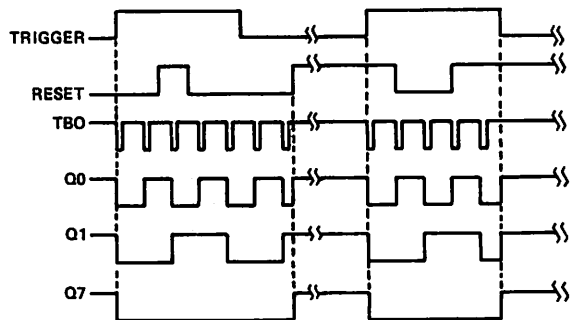

FIGURE 5—TIMING DIAGRAM OF
Figure 5 shows voltage waveforms for typical operation of the μ A2240. If both reset and trigger inputs are low during power-up, the timer/counter will be in a reset state with all binary (Q) outputs high and the oscillator stopped. In this state, a high level on the trigger input starts the time-base oscillator. The initial negative-going pulse from the oscillator sets the Q outputs to low logic levels at the beginning of the first time-base period. The μ A2240 will ignore any further signals at the trigger input until after a reset signal is applied to the reset input. With the trigger input low, a high level at the reset input will set Q outputs high and stop the time-base oscillator. If the reset signal occurs while the trigger input is high, the reset is ignored. If the reset input remains high when the trigger input goes low, the μ A2240 will reset.